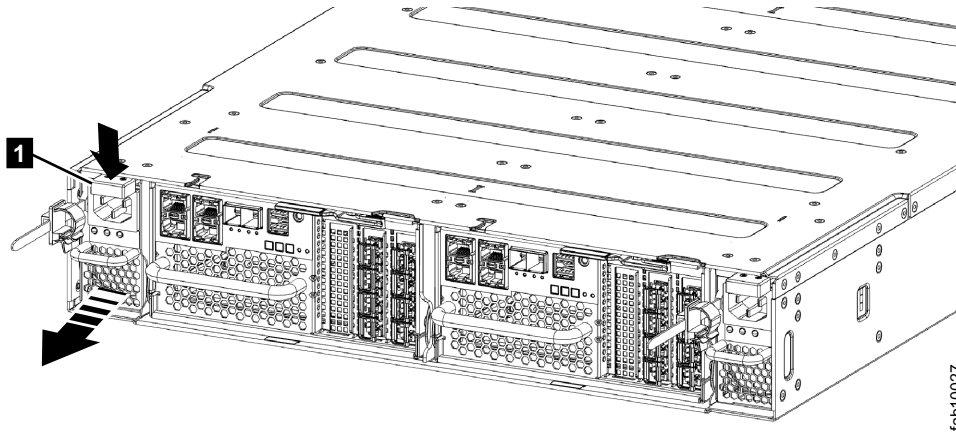

Figure 76. Removing the power supply unit (left side of enclosure)
5. Using the handle, firmly pull the power supply out of the enclosure shown in Figure 76.